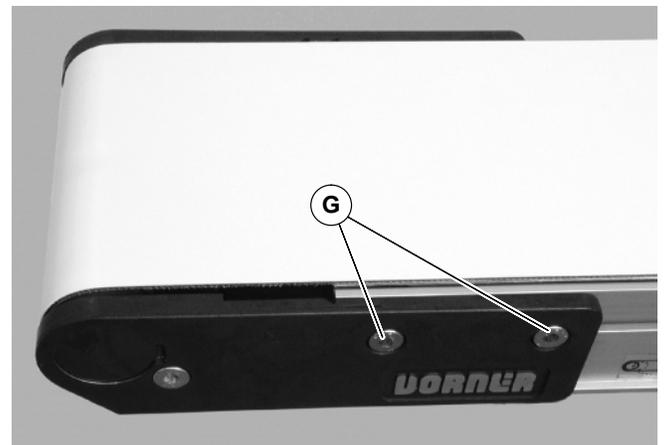

Figure 27
12. Install pulley assembly on conveyor. On both sides of conveyor tighten fastening screws (G of Figure 27) to 60 in-lb (7 Nm).